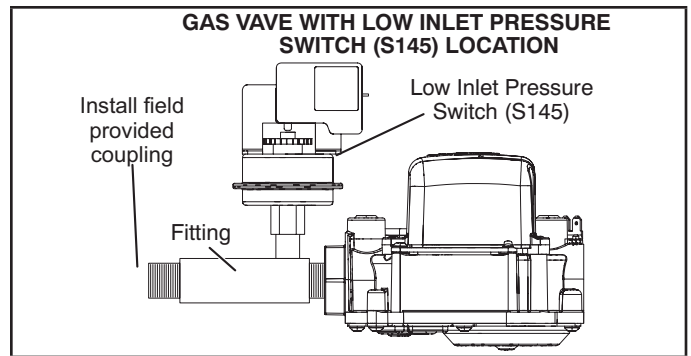

FIGURE 2
- 9 - Thread provided fitting to gas valve inlet until hand tight. Using properly sized wrench, tighten fitting 2 to 3 full turns being careful to position the side port to allow clearance for the pressure switch and harness. See figure 2 or 3.
NOTE - Some installations may require the pressure switch and fitting assembly to be positioned differently than shown in figures 2 and 3.
- 10 - Thread the gas supply to the fitting until hand tight. A field provided coupling may be needed. See figure 2. Using properly sized wrench to support fitting, tighten supply line into fitting 2 to 3 full turns to achieve leak free joint.